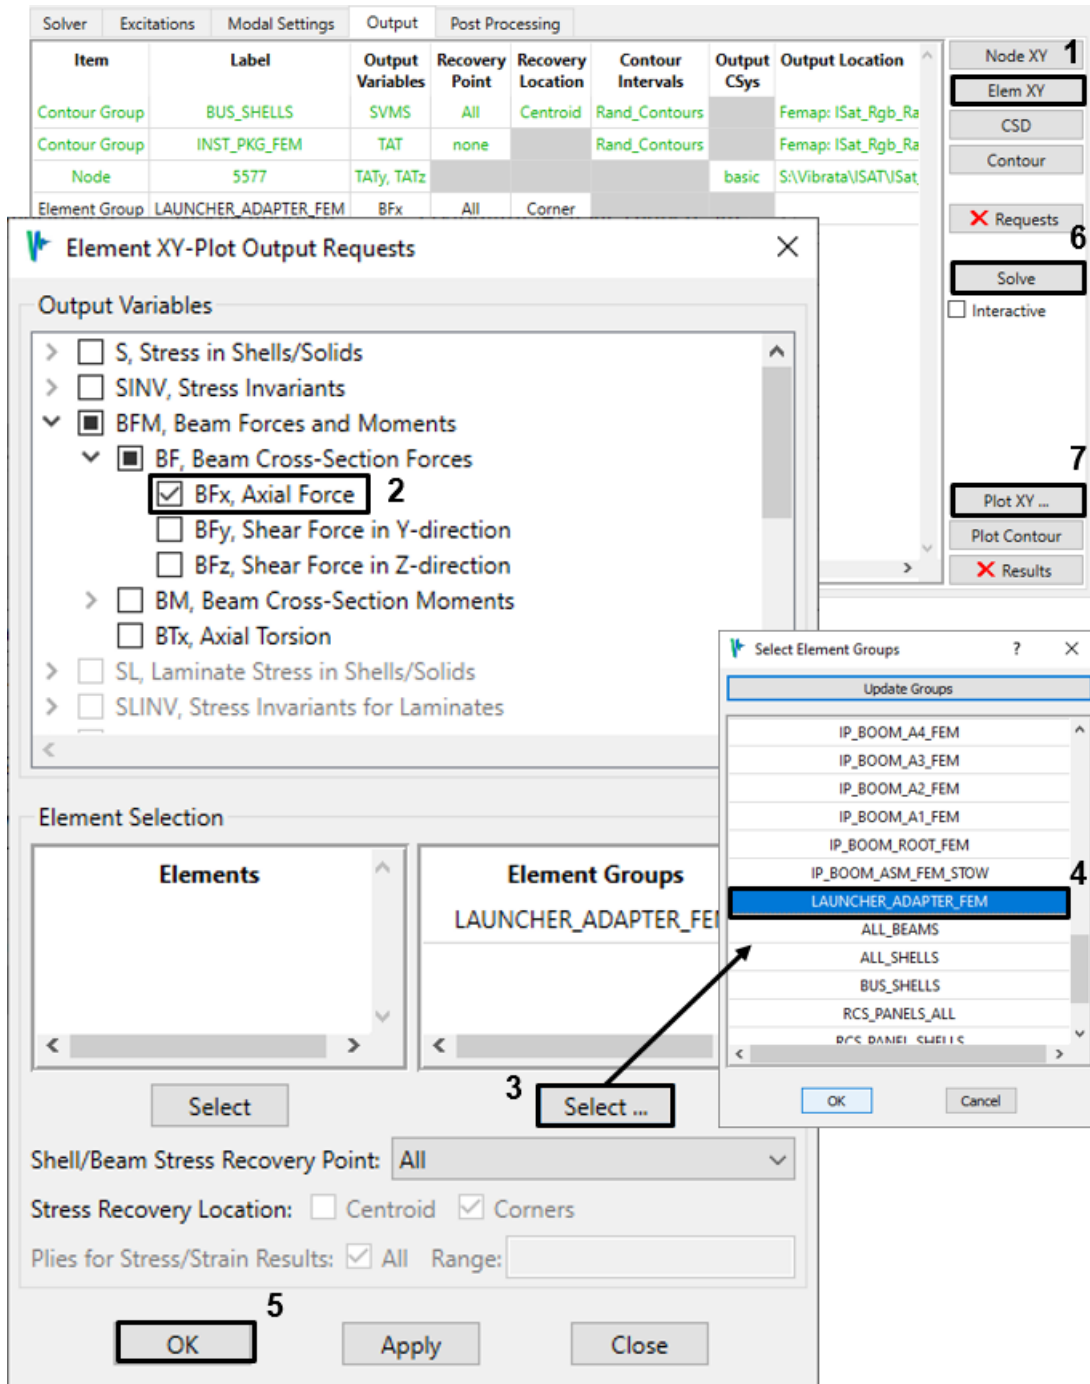
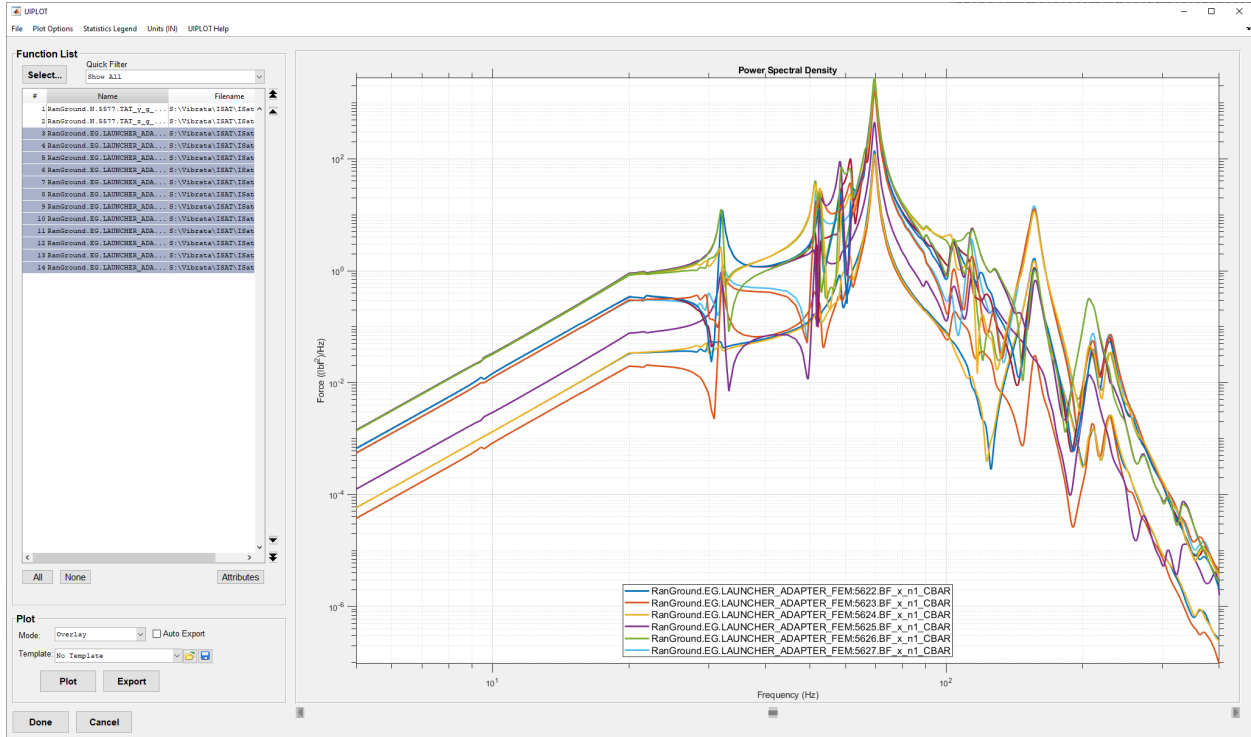

Figure 4-50. Request axial forces in the launcher adapter legs.
Figure 4-51. Axial forces in the launcher adapter legs, rigid base.
9. It is also important that we not exceed allowable loads in the launcher adapter legs. Request axial force responses for the elements in group "LAUNCHER\_ADAPTER\_FEM" (Figure 4-50). Solve and plot (Figure 4-51). The RMS values, along with other statistics about the functions, can be displayed using the *UIPLOT* dialog's *Statistics Legend* menu. Note that element 5632 has the largest RMS value.